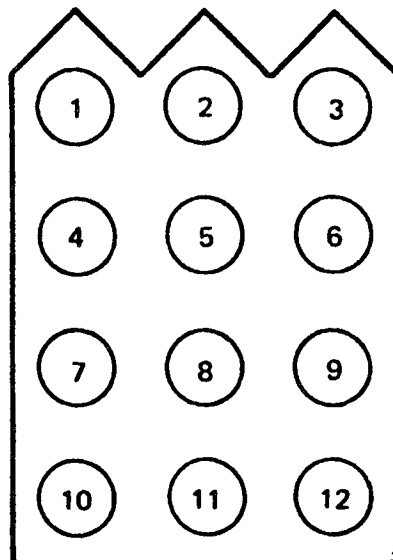

Figure 3-9. Connector J30 Pin Locations
2. Measure contact resistances of the microswitch at connector J30 by using an ohmmeter. (See Figure 3-9 for connector pin locations.)